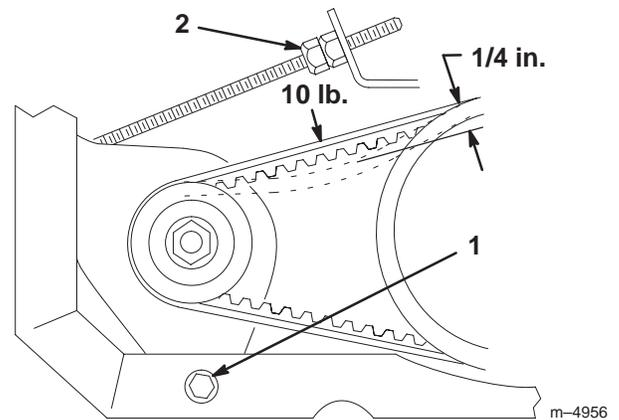

Figure 35
- Loosen the starter generator pivot bolt (Fig. 35).
- Adjust the jam nut on the starter rod (Fig. 35) until the belt flexes 1/4 in. with 10 lb. of force.
- Tighten the starter generator pivot bolt (Fig. 35).